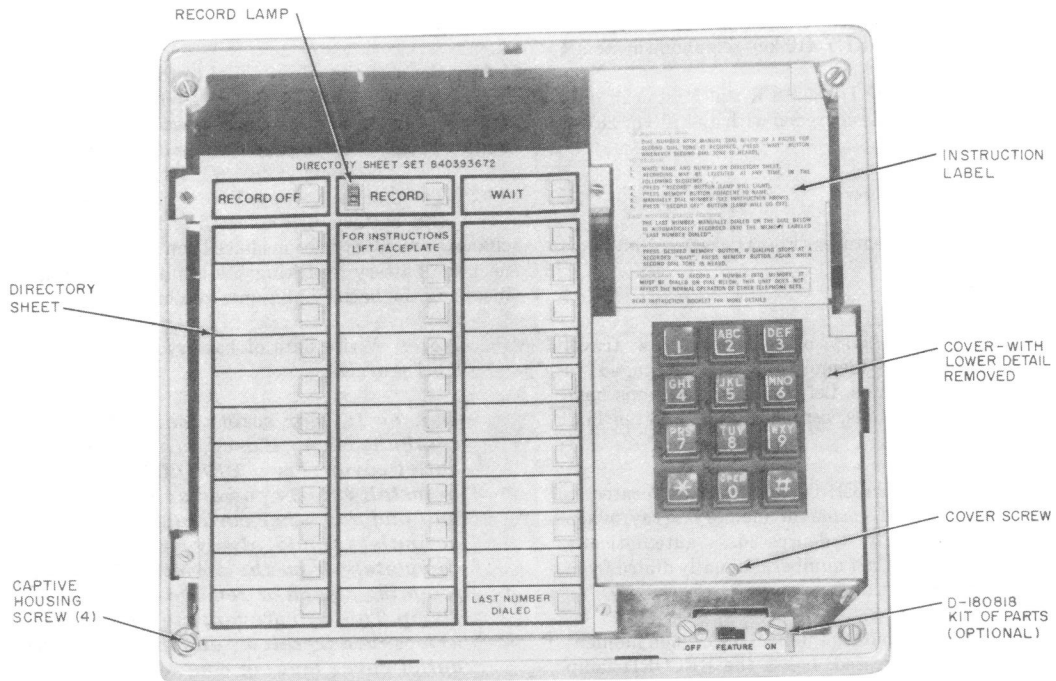

Fig. 2—2870A1 Dial, Faceplate Removed
**3.04** Directory sheets (Fig. 2) are held in place under the faceplate. Additional sheets are available in directory sheet set.
(1) Remove faceplate (paragraph 3.10).
(2) Loosen the captive screw at the bottom of the cover around the dial and remove the cover (Fig. 2).
(3) Disengage dial from chassis (paragraph 6.05 or 6.06).